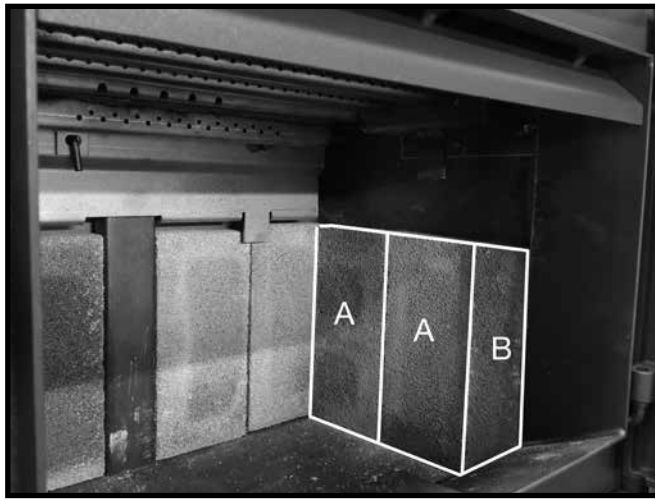

Figure 28: Lower side wall firebricks in place.
5. Stand another "A" brick beside the first one followed by a narrow "B" firebrick (Figure 28).